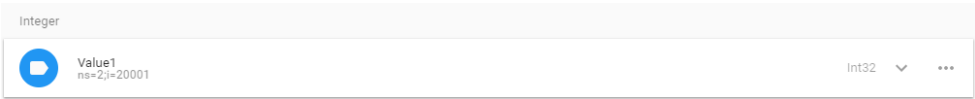

Figure 5.80 Available tags are listed.
5. Click “Add”; tags will be listed (Figure 5.80). Repeat process for all required data sources.